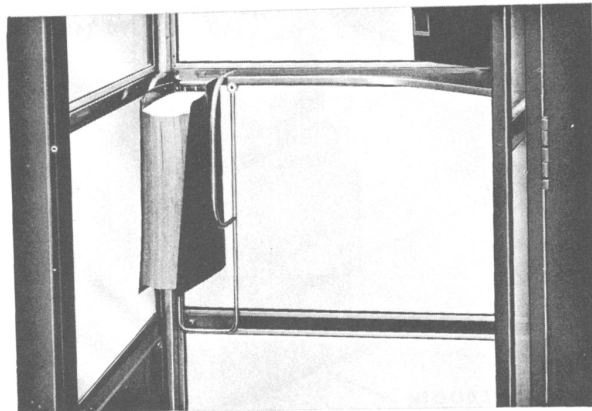

Fig. 9 — KS-16797, List 74 Directory Rack and KS-16797, List 75 Shelf Installed
7.01 Directory facilities in combination of a KS-16797 List 74 directory rack and a List 75 shelf (Fig. 9) shelf can be located in the left rear corner of the booth. Install as follows: